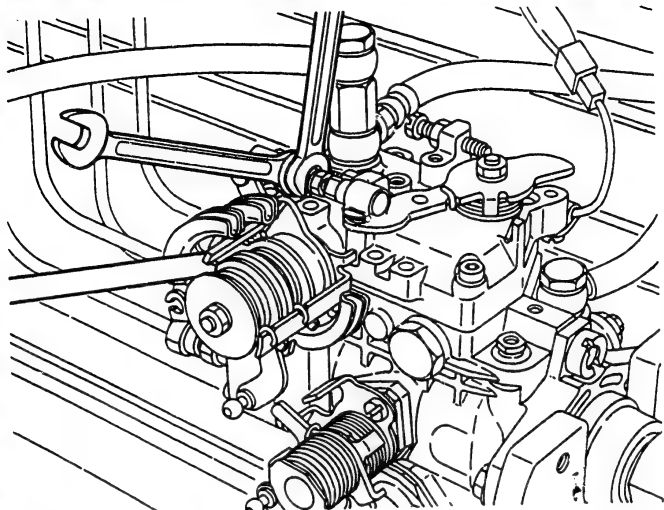

Fig. 186 Setting the adjusting rod length
3. Install the connecting rod (86) to connect the control lever (72) and side link lever (78).
4. While holding side link levers (79 and 81) against the stopper (67/27), adjust the connecting rod's length so that the distance between side link levers (79 and 81) and the hooked part of side link lever (78) is as specified. (Fig. 186)